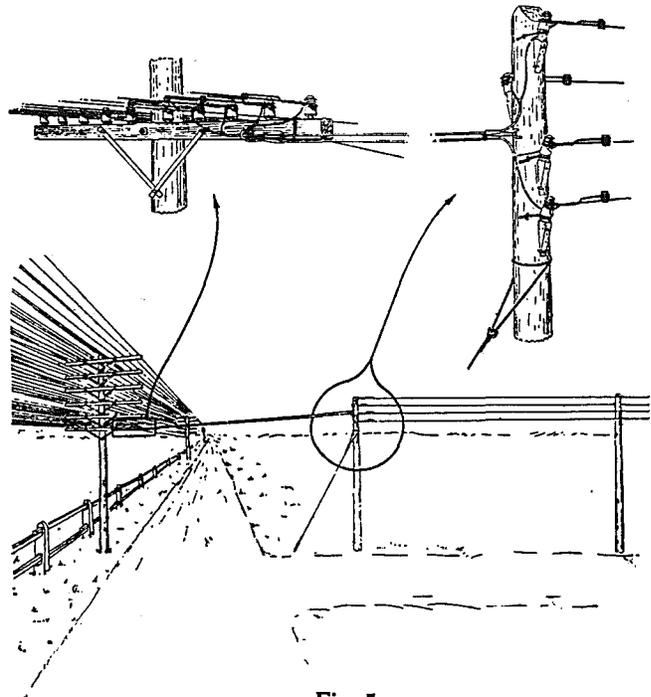

Fig. 5
2.05 Where the side lead consists of exchange circuits only and clearance conditions permit, drop wire may be run from side lead to main lead as shown in Figs. 5 and 6. Place drop wire and attachments in accordance with the Practices covering Drop and Block Wiring.